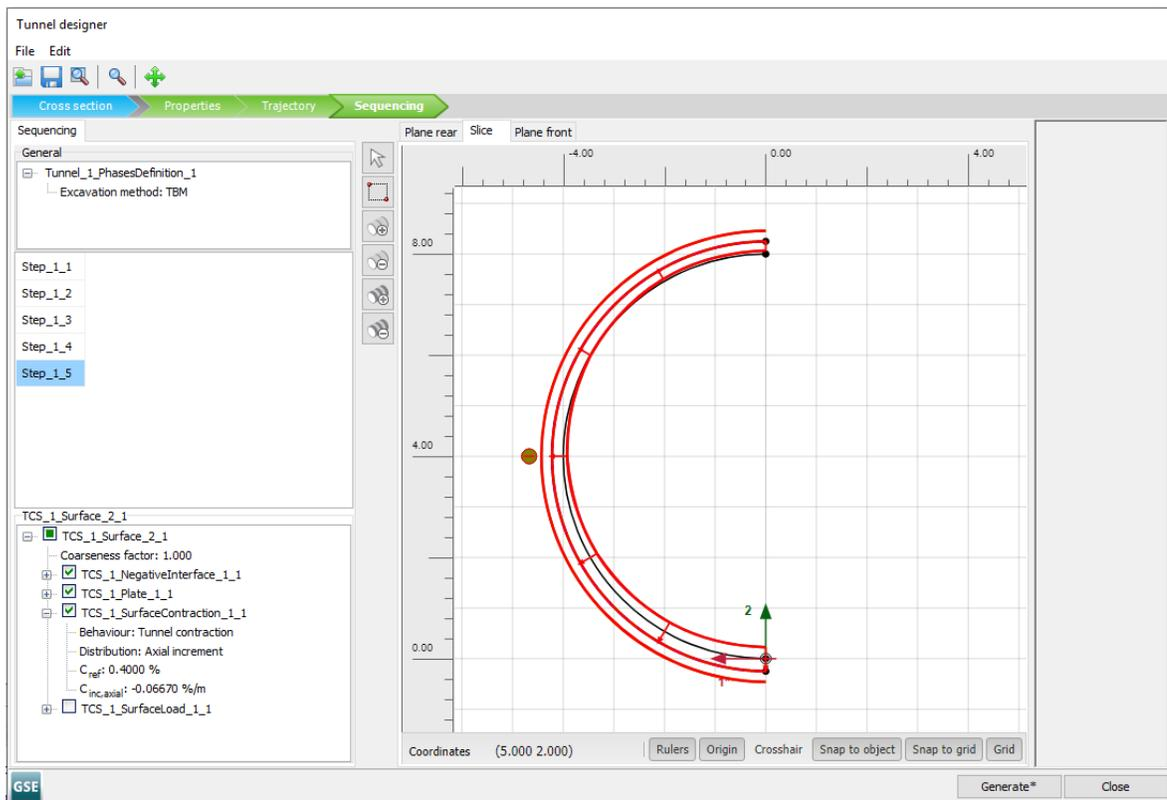

Figure 71: Slice tab in the **Tunnel designer** from Step_1_3 to Step_1_5
- Click on the **Add Step** button three times to add three new steps. These steps are necessary to define the remaining cone part of the TBM shield (Figure 71 (on page 97)).
Step_1_5: $C_{ref} = 0.4\%$, see Figure 71 (on page 97)